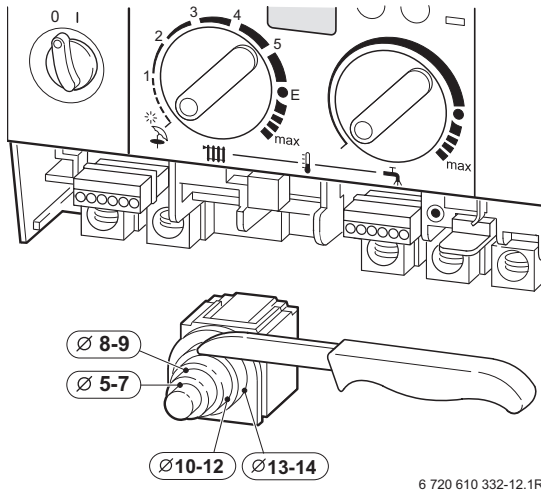

Fig. 29
- ▶ To make splash-water proof (IP): cut the cable grommet hole size to match diameter of cable, see fig. 29.